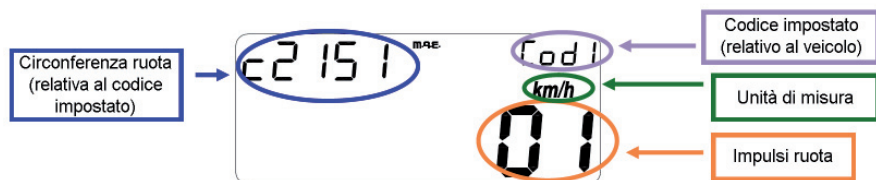

Fig. 19
- 3rd page (every time the instrument is switched on): Display of set parameters (fig. 19).